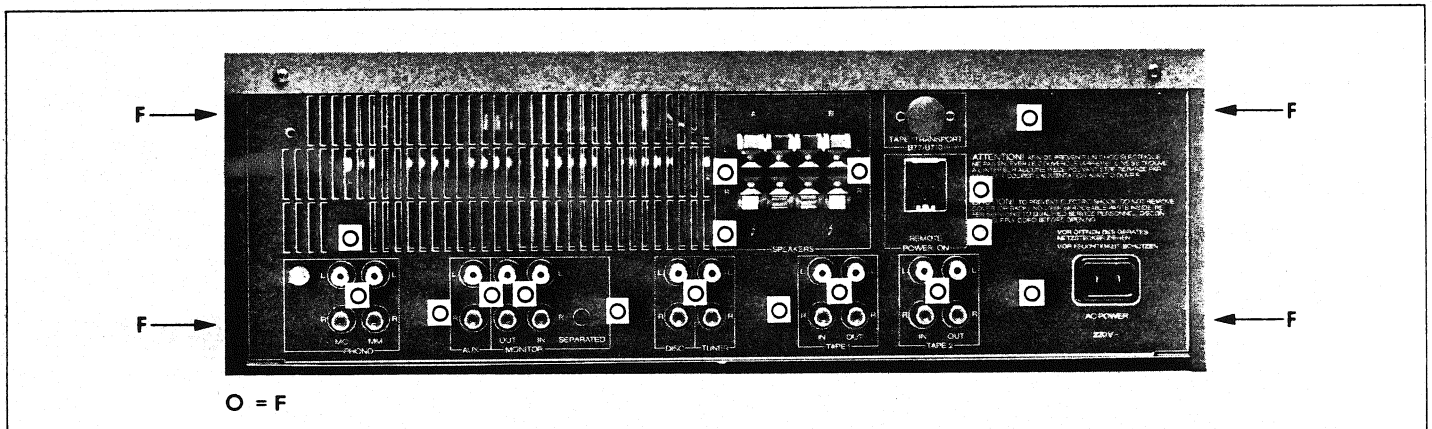

Fig. 2.5
2.6 Removing the rear cover (Fig. 2.5)